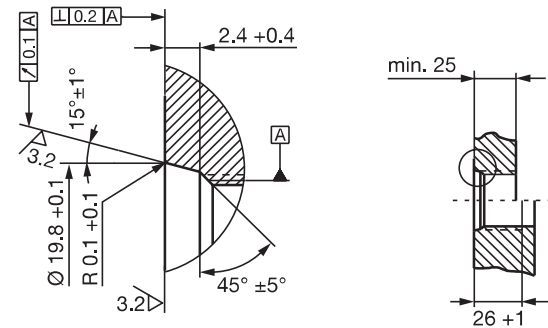
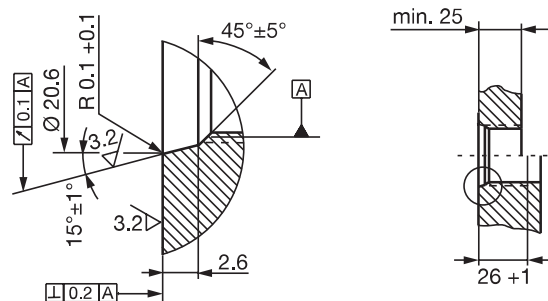
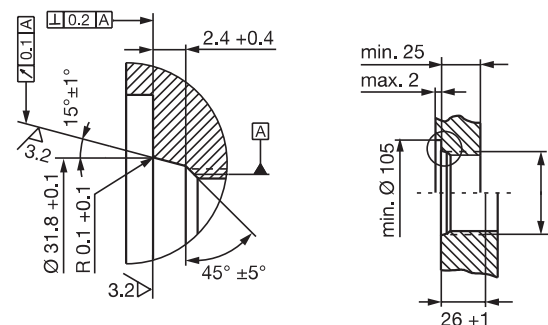

Fig. 4-3: Mounting hole M18x1.5 per ISO 6149 O-ring 15.4x2.1
Fig. 4-4: Mounting hole 3/4"-16UNF per SAE J475 O-ring 15.3x2.4
Fig. 4-5: Mounting hole M30x1.5 per ISO 6149 O-ring 27x2.5
- ▶ Make a mounting hole with thread (possibly with countersink for the O-ring) acc. to Fig. 4-3, Fig. 4-4 or Fig. 4-5.